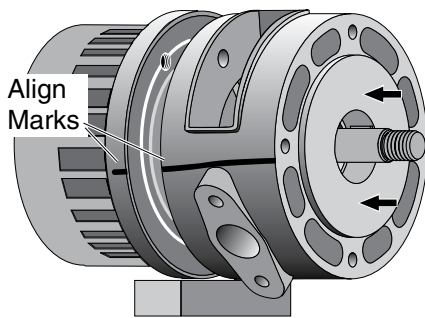

Figure 22
- Step 4. *Carefully* slide the adapter over the shaft (see Figure 22). Do not damage the shaft sealing surface; it is highly polished and any slight scratches or nicks will ruin it.